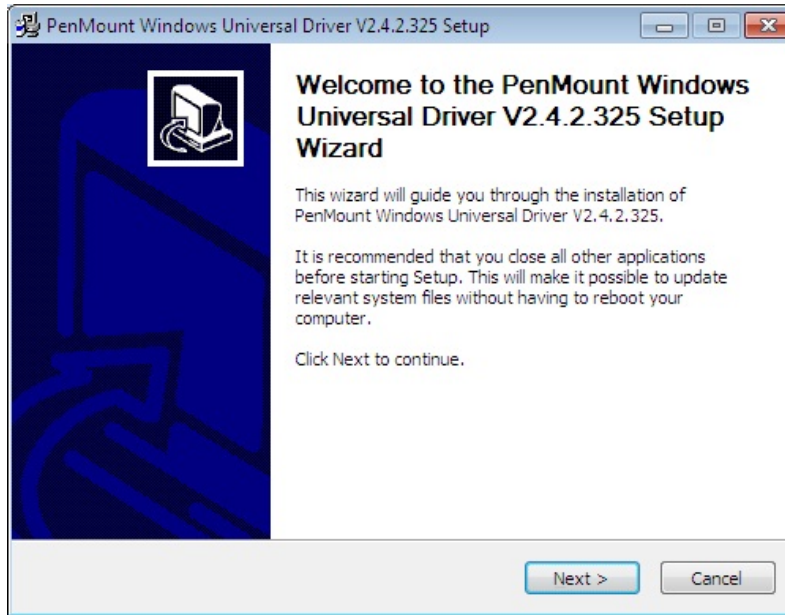

Figure 6-27: Welcome Screen
Step 5: The Welcome screen in **Figure 6-27** appears. Click **Next** to continue.